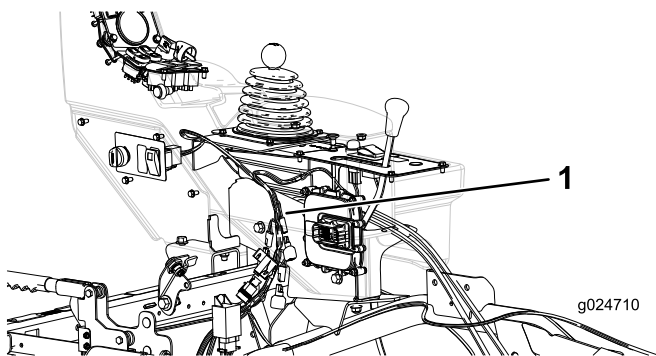

Figure 26
2. Route the harness to the side console (Figure 26).